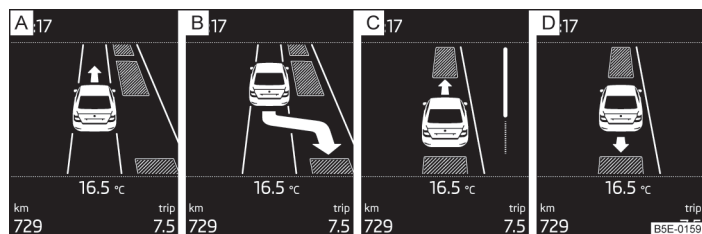

Fig. 132 Display
If the system has recognised a suitable parking space, this parking space is shown in the display » Fig. 132 - **A**.
- Continue driving forwards until the display appears » Fig. 132 - **B**.
- If the arrow flashes forwards in the display » Fig. 132 - **C**, then select 1. gear or move the selector lever into position **R**.
- If the backwards arrow is flashing in the display » Fig. 132 - **D**, select reverse gear again or move the selector lever into position **R**.